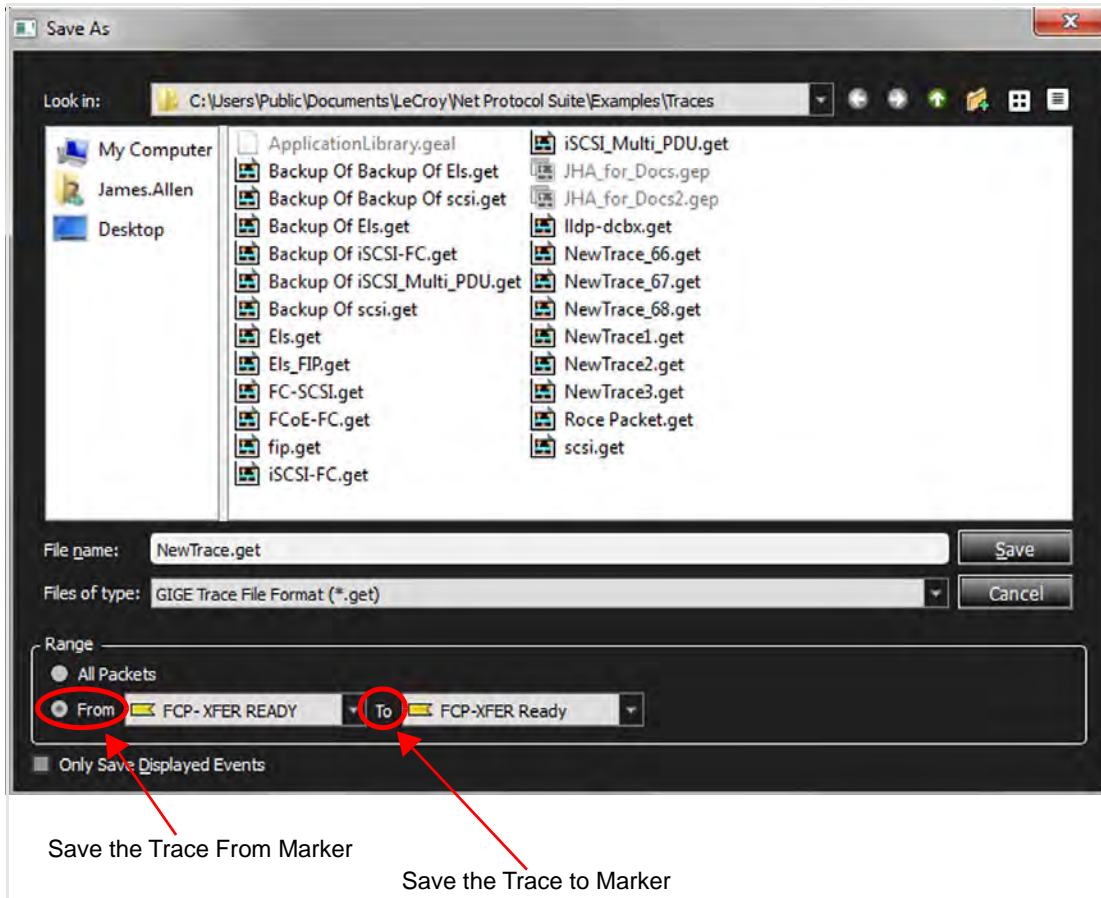

Figure 3.18: Save Partial Trace
2. After selecting **From** and **To** markers, **Save** the partial Trace. See Figure 3.18.